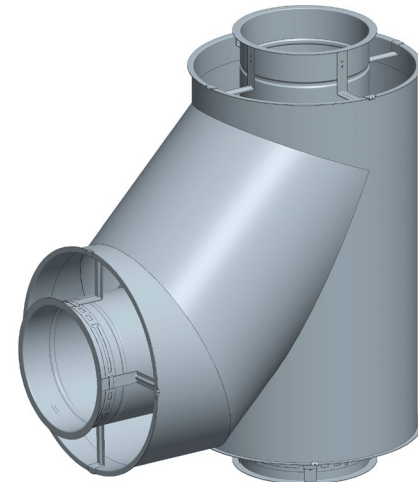

Figure 32 - Lateral Tee (BT)
The Lateral Tee (BT) is a 45° Tee with a 45° Elbow integrated in it. The installation details are the same as a 90° Tee. See Figure 32.